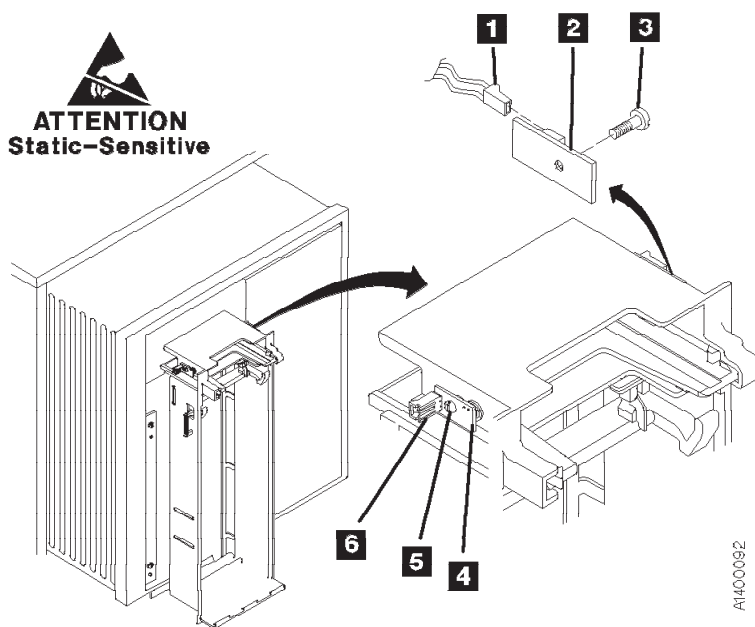

Figure 10-26. Priority Slot Sensor
4. See Figure 10-26 on page 10-40. Remove the mounting screw **3** from the emitter card **2**. Disconnect the emitter (PSBE) connector **1** from the emitter card.